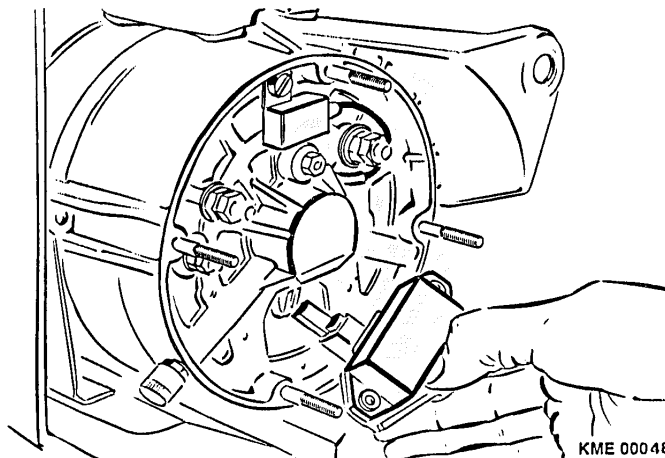

Figure 37 Regulator Installation
3. Pivot the regulator into the opening of the alternator. Once the brush holder is inside the alternator cavity, slowly remove the paper clip and allow the brushes to extend from the holder. (Figure 37)